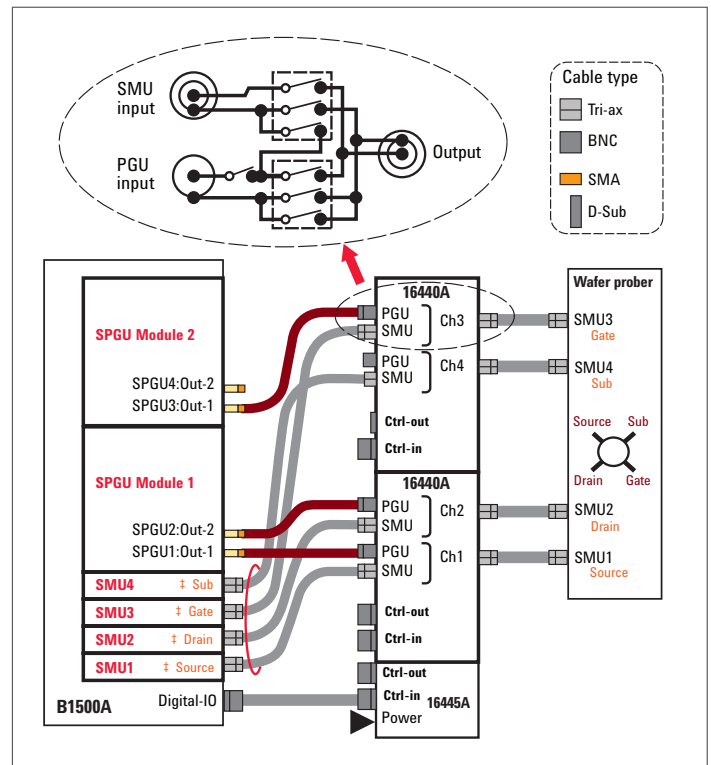

Figure 8. Simplified NOR flash memory cell connection diagram
The B1500A library of flash memory application tests supports the Keysight 16440A SMU/PGU selector, which switches between SMUs for V_{th} measurements and HV-SPGUs for writing and erasing the memory cell. Figure 8 shows a simplified connection diagram for NOR flash memory test using the 16440A. The 16440A switch provides two important flash memory cell testing capabilities: (1) the ability to switch between the SMUs and HV-SPGUs and (2) a reasonable compromise between the high frequency bandwidth and low leakage DC performance that are both necessary for flash memory cell testing.